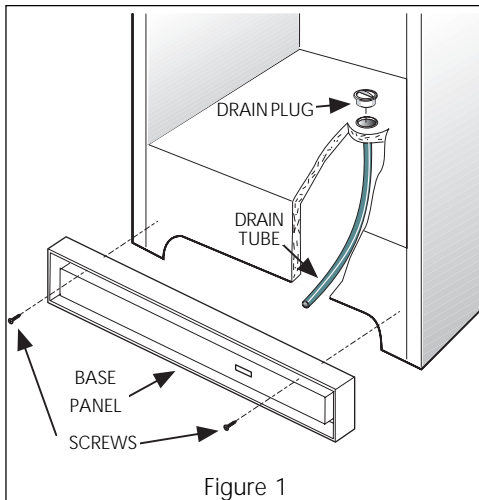

Figure 1
- **On upright models** with a defrost drain (Figure 1), remove drain plug on the inside floor of the freezer by pulling straight out. To access external drain tube on models with a base panel, first remove the two screws from the base panel. Locate the drain tube near the left center under the freezer. Place a shallow pan under the drain tube. Defrost water will drain out. Check pan occasionally so water does not overflow. A 1/2 inch garden hose adaptor can be used to drain the freezer directly into a floor drain. If your model is not equipped with an adapter, one can be purchased at most hardware stores. Replace the drain plug when defrosting and cleaning are completed. If the drain is left open, warm air may enter freezer.